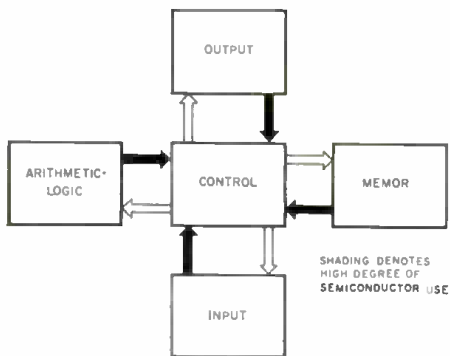

Fig. 1. Basic computer sections showing those that may employ many semiconductors.
output, (2) a control unit, (3) an arithmetic unit, and (4) a memory. For the most part, we will find our semiconductors in (2), (3), and (4), as parts of flip-flops, "and," "or," "nor" gates, shift registers, Schmitt triggers, and so on. (See Fig. 1.)